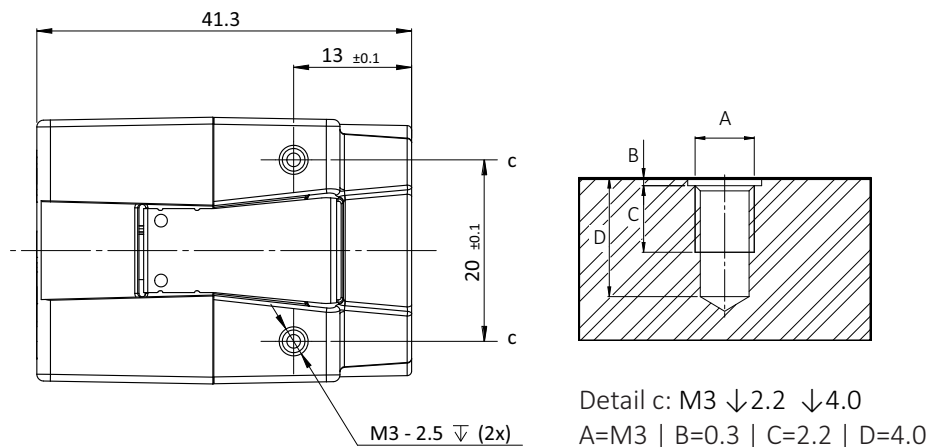

Figure 61: Mounting threads bottom and top (a)
1. As shown in Figure 61, mount the camera to the base using suitable M3 screws for mounting thread a: At 0.51 Nm maximum torque for a thread engagement (C) of 2.2 mm between screws and mounting threads.